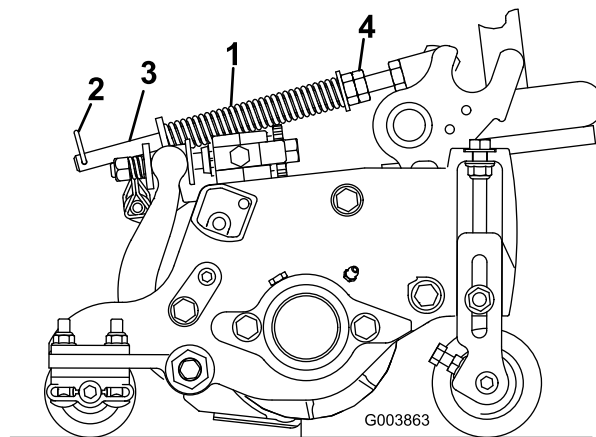

Figure 19
The turf compensation spring (Figure 19) transfers weight from the front to the rear roller. (This helps to reduce a wave pattern in the turf, also known as marcelling or bobbing.)
- Make sure the hairpin cotter is installed in the rear hole in the spring rod (Figure 19).
- Tighten the hex nuts on the front end of the spring rod until the compressed length of the spring is 6.25 inches (15.9 cm) (Figure 19).